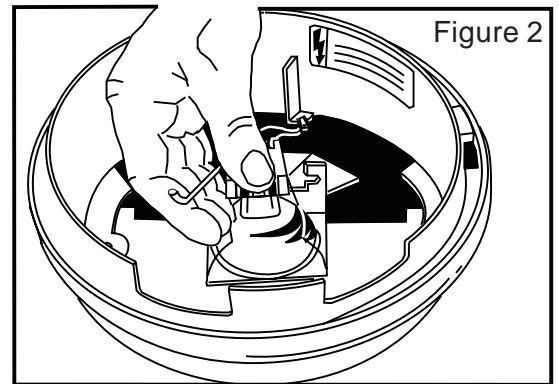

Figure 2
- Make sure the lamp and socket are sufficiently cool, then pull up on the lever on the side of the lamp holder to eject the lamp. Place your thumb on top of the socket to steady it while you lift the lever as shown in Figure 2.